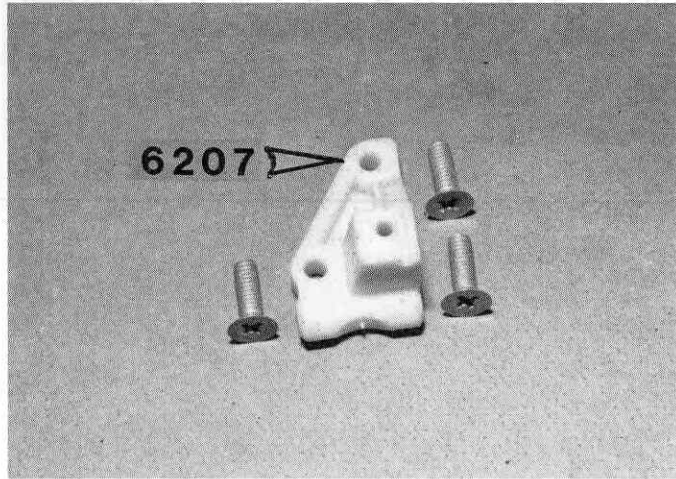

Fig. 5
□ **Fig. 5** In bag #6-1, take out the left hand front suspension mount #6207. This mount will have the letter L on the bottom. The left or right hand side of the car is determined by the driver as he sits in the car. His left hand will be the left side of the car and his right hand the right side.